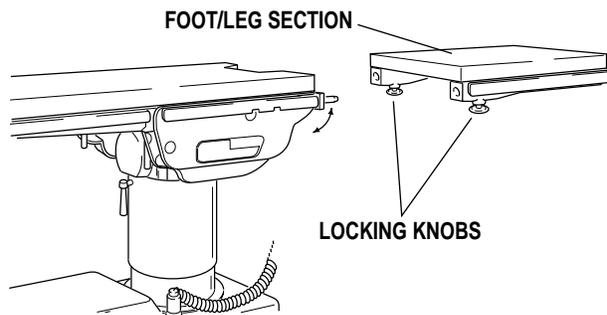

Figure 3-16. Leg Section Removal
a. Early Table Models - For increased surgeon access in the perineal area, the leg section can be removed from the table. To remove the leg section, loosen the two locking knobs located beneath the leg section and pull the section out. See figure 3-16. Press the LEG DOWN button on the pendant control to position the leg section attachment pins down and out of the way.